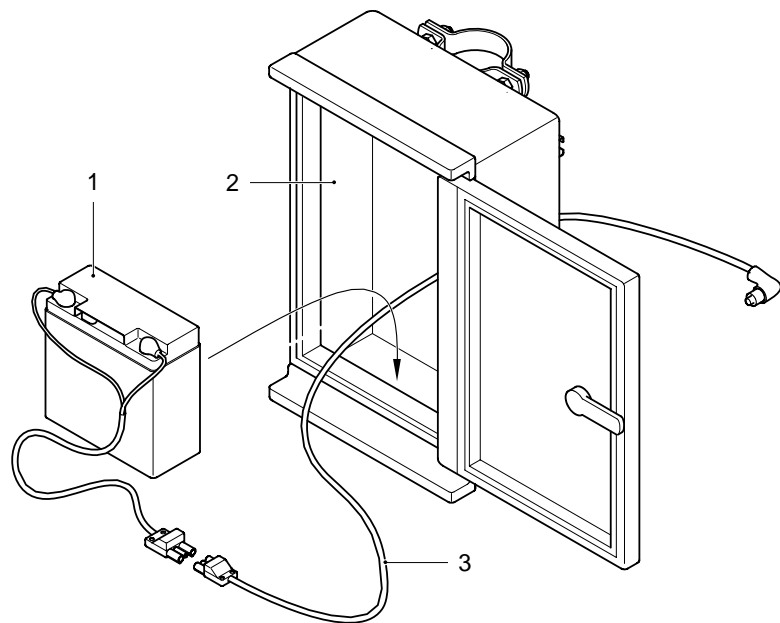

Figure 7-3 Putting the battery in the battery box
- (1) Put the battery (Figure 7-3 Item 1) into the battery box (Figure 7-3 Item 2) at the installation location.
- (2) Connect the pre-installed battery cable (Figure 7-3 Item 3) to the battery.
- (3) Lock the battery box.